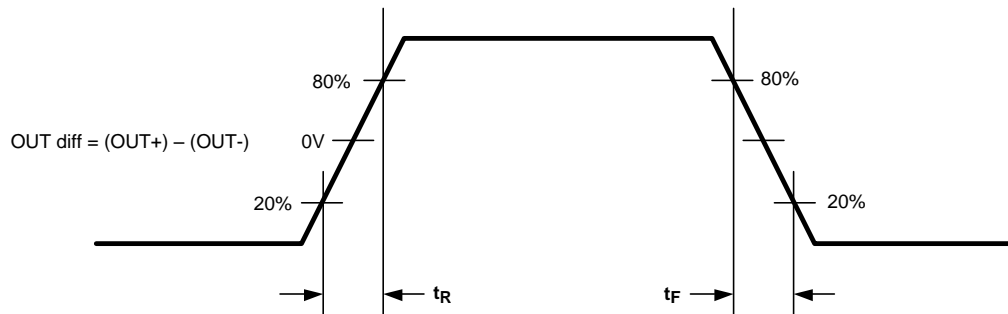

Figure 3. CML Output Transition Times
| V OD                       | Output Differential Voltage Level (OUT diff)               | Differential measurement with OUT+ and OUT- terminated by 50Ω to GND, AC-Coupled (Figure 3)                       | 550                    | 620        | 725                    | mV P-P |
| t R , t F       | Transition Time  | 20% to 80% of differential output voltage, measured within 1" from output pins. (Figure 3) (4)         | 20                     |            | 60                     | ps                |